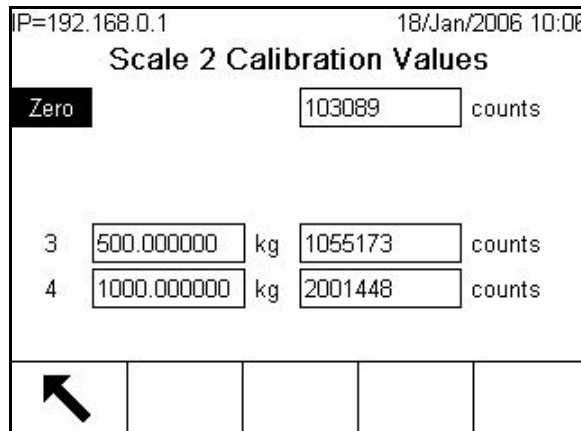

Figure 3-20: Calibration Values Screen, Zero in Focus
- Calibration Values—Displays the current calibration values for each scale (Figure 3-20). If these values are recorded after a scale calibration, and the scale channel PCB is replaced in the future, the calibration values can be manually entered here to “transfer” the previous calibration to the new scale channel PCB. This is not available with IDNet bases.